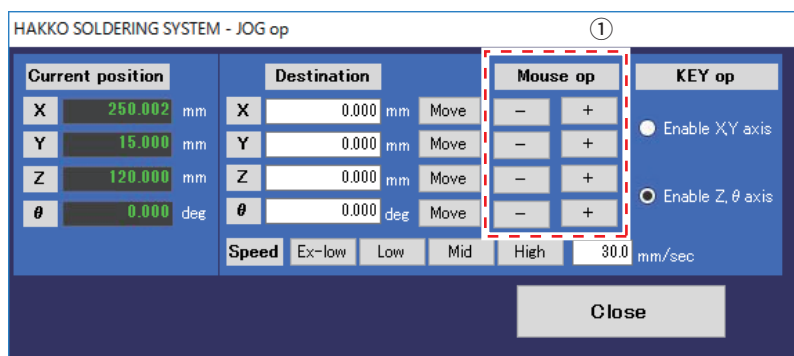

Fig. 7-27
- Click the “JOG op” to open the JOG operation screen (See Fig. 7-27). Move the axis by mouse operation to the position where the tip comes in contact with the cleaner.